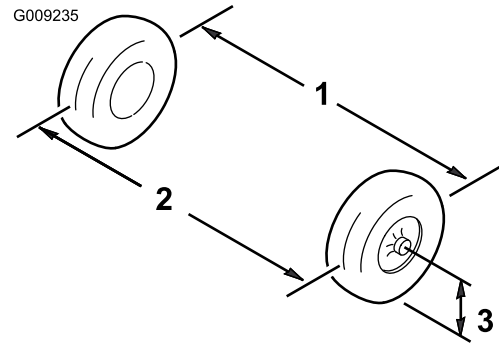

Figure 58
2. Measure the distance between both of the front tires at the axle height at both the front and rear of the front tires (Figure 58).